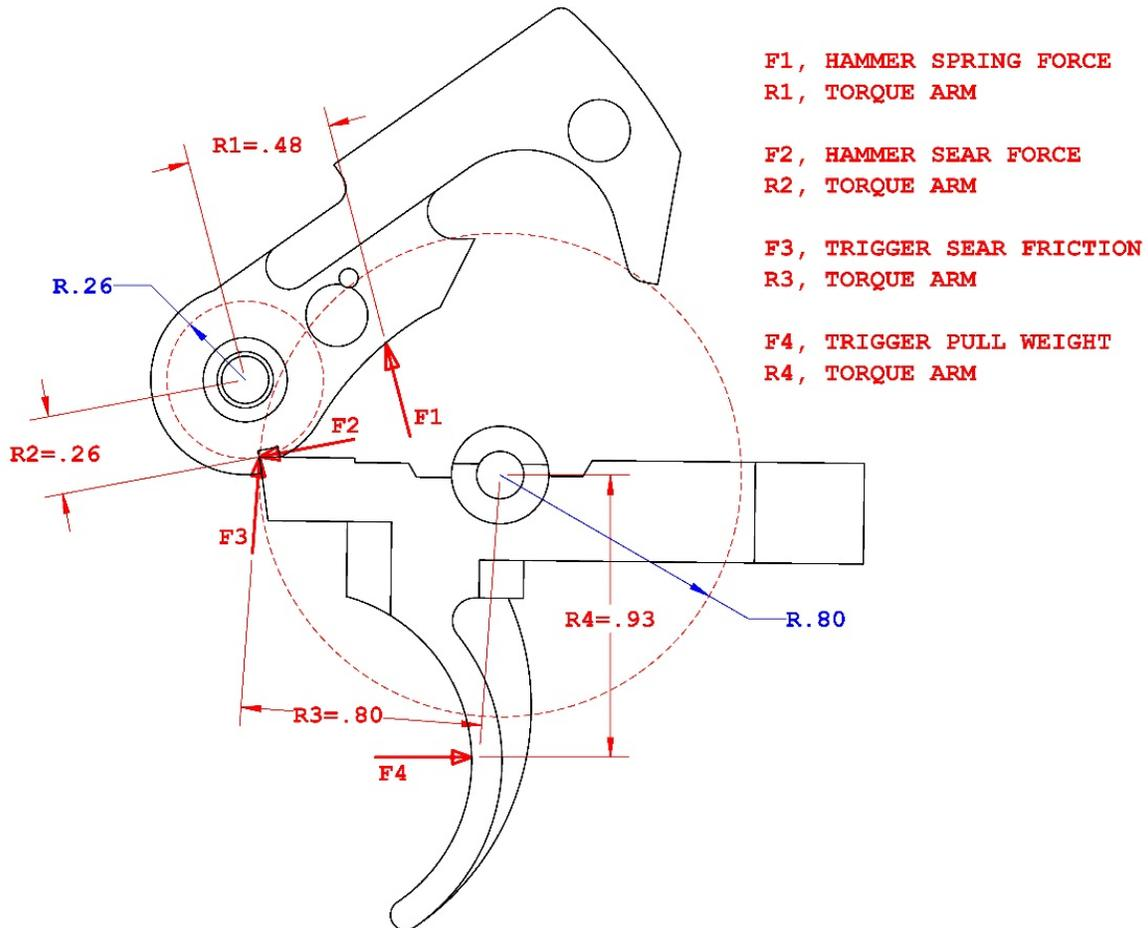
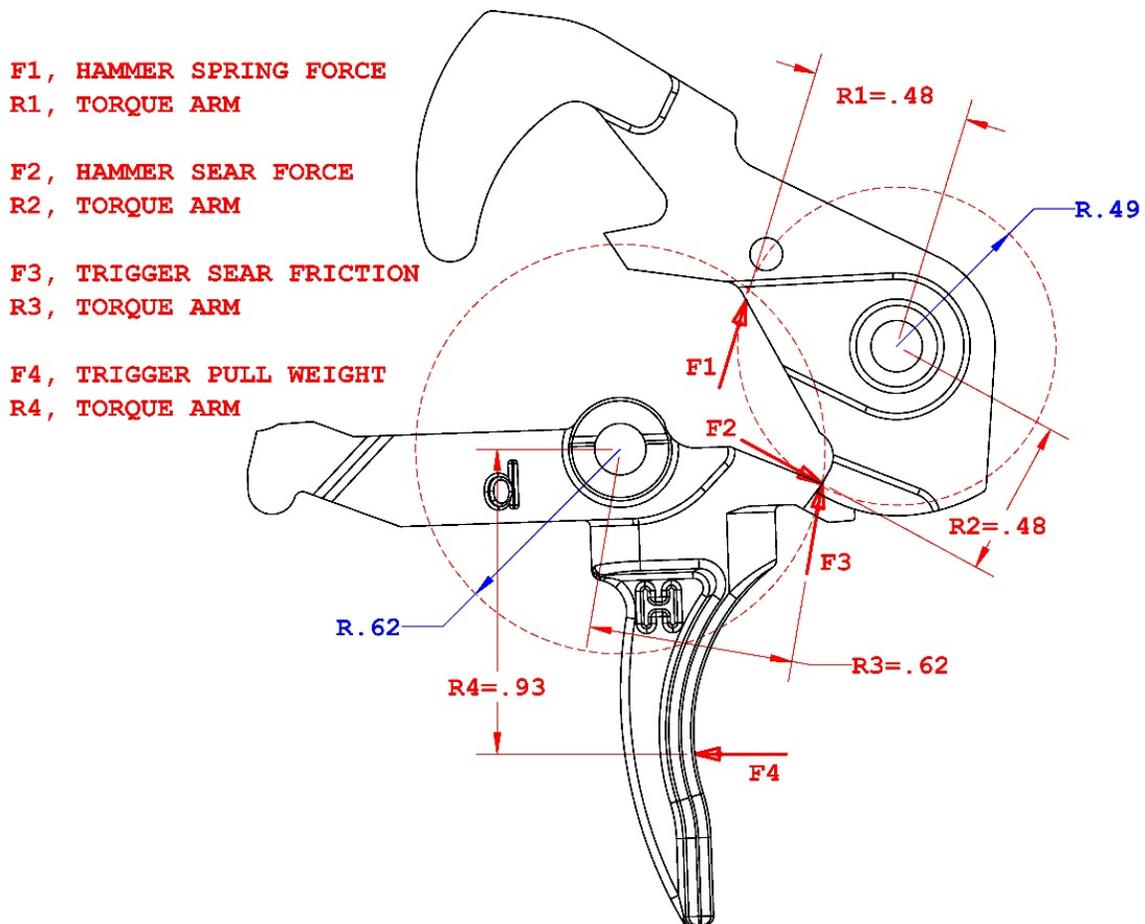

Figure 1. The MIL-spec trigger's mechanical advantage is shown with important dimensional information used to calculate pull weight.
Figure 2. A HIPERFIRE EDT pull-weight mechanical advantage with important dimensional information used to calculate pull-weight.
Eugene Stoner's original AR-15® rifle and all subsequent variations used a stiff hammer spring to reliably touch-off MIL ammo. That heavy spring also meant high sear friction and high pull weights. The high pull weight was rationalized to provide adequate safety on the battlefield during the stress of engagements by minimizing accidental discharges. All would agree today that it also resulted in poor rifle accuracy — the bane of the AR. Figure 1 shows the AR15 sears' mechanical advantage characteristics.
HIPERFIRE changed the positional arrangement of the trigger and hammer sears shown in Figure 1 to what's shown in Figure 2 to deliver lower pull weights. The mechanical advantage between the trigger and hammer sears is changed. Fundamentally, we changed the leverage between the parts to reduce impingement forces; remember the Engineering Mechanics 101 course? By so doing, we reduced friction and the pull weight.
Figures 1 and 2 show the derivation of the force vectors from which is derived the pull force for the MIL-spec trigger and a HIPERFIRE Enhanced Duty
Now, F_2 is the hammer sear force, referred to here as the “normal force,” or impingement force, applied by the hammer sear onto the trigger sear. Normal means that the vector is applied at a right angle, or is perpendicular to the contact hammer surface. Close inspection of Figure 1 shows that the force is not normal. However, we proceed as if it were to simplify the calculation and make our comparison easier to follow.
The friction force, F_f , is identified in Figure 1 as F_3 . That's the force that the trigger is pulled against, equation (3). Rewriting (3) as (7) and solving for F_2 yields equation (8) giving us the relationship between F_3 and e .